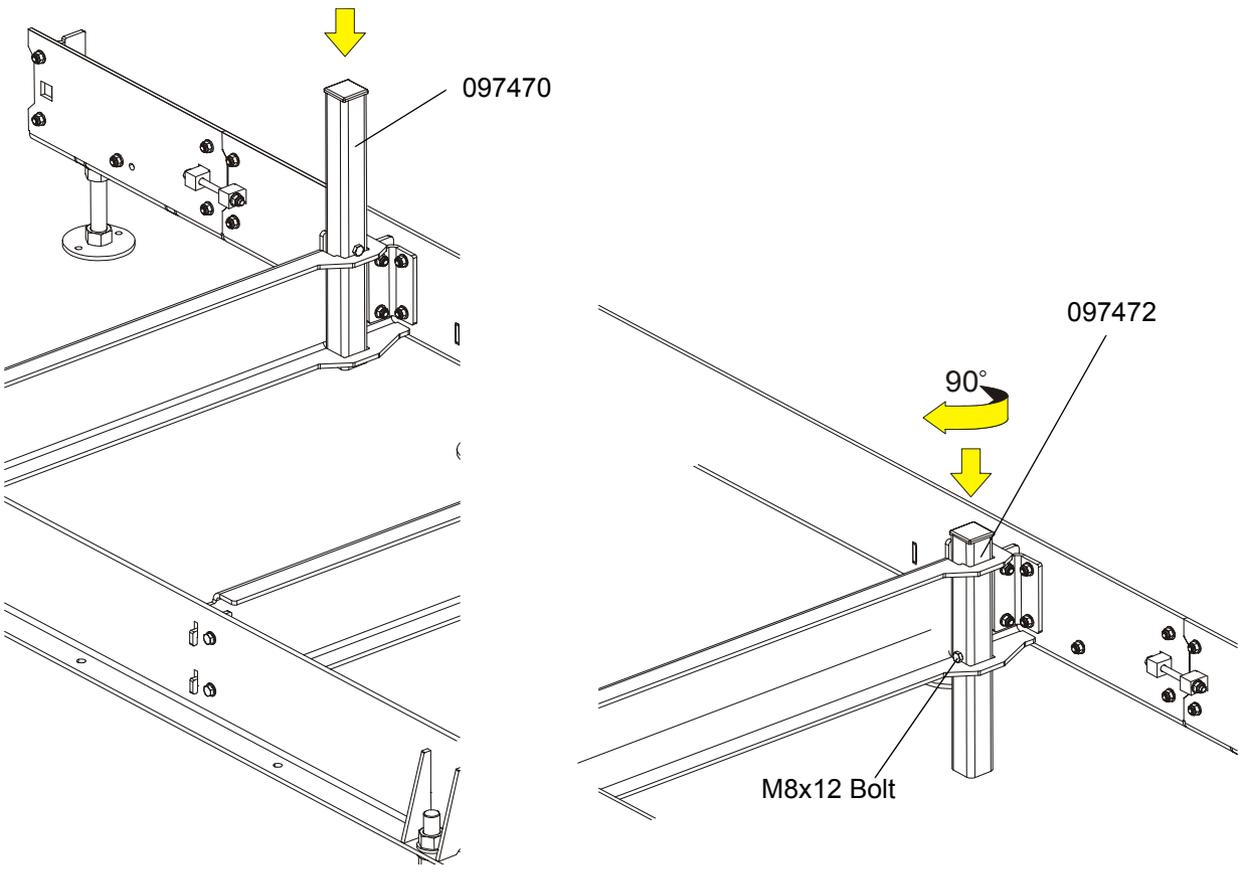

FIG. 2-8
- 7. Each bed segment has got two side supports (Part No 097470 – long and 097472 – short). Install the log side supports as shown on the Figure 2-8. Each side support can be adjusted in two positions, depends of the cutting height.
See Figure 2-8.